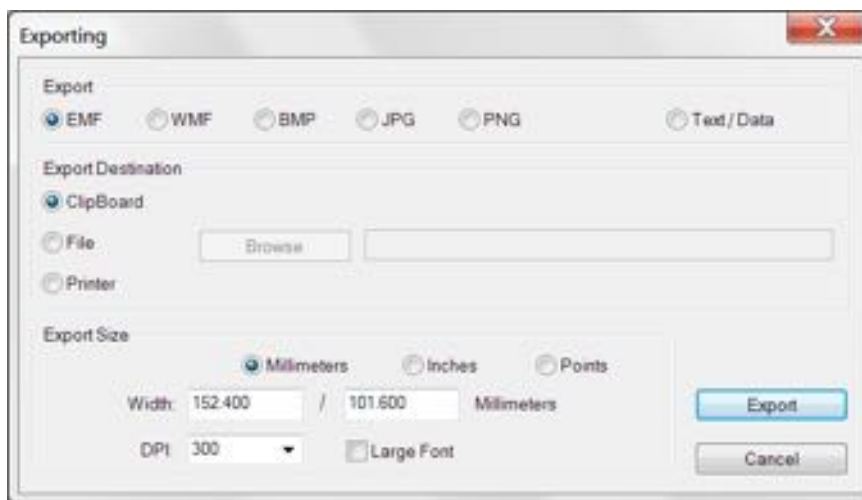

Figure 6-61: Exporting Dialog Box
2. In the **Exporting** dialog box (see Figure 6-61), select the export options and click **Export**.